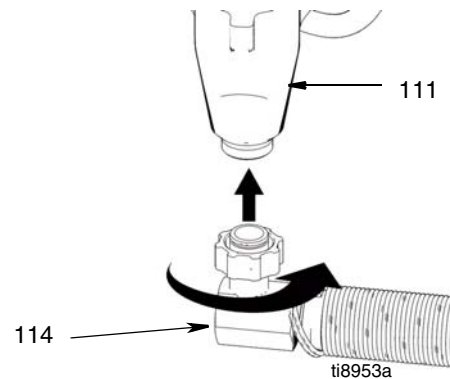

FIG. 27
8. (Fig. 27) Install suction hose (114) to bottom of pump (111).